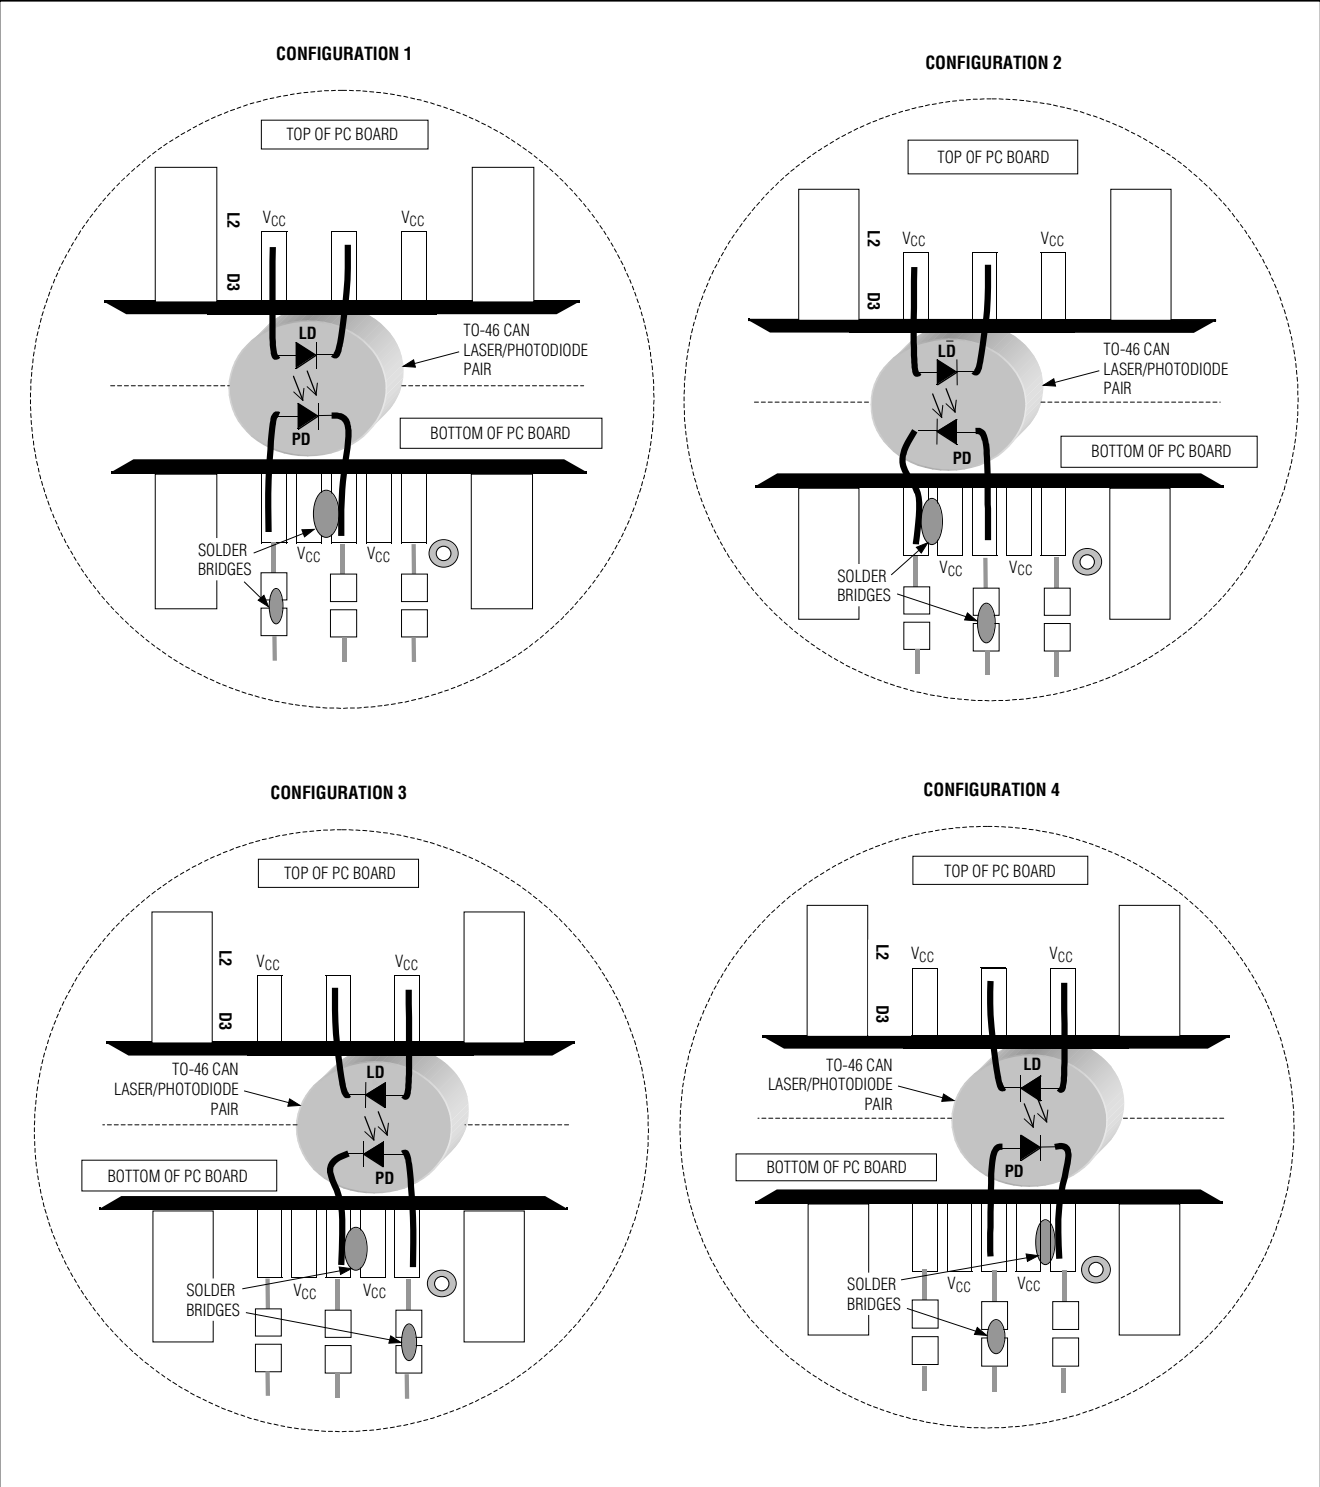

Figure 1. Attachment of Laser Diode/Monitor Diode to MAX3669ETG EV Kit
- 2) Connect a TO-style header laser and monitor diode (Figure 1) as follows: